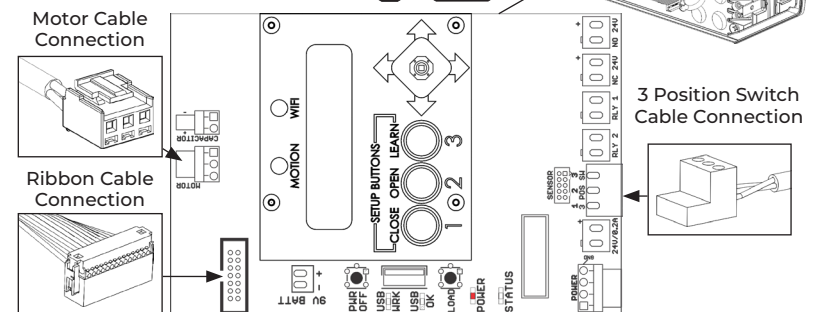

Fig. 14
5. Connect the motor cable and ribbon cable from the operator body to the control board. (Fig. 14)
6. Connect the 3-position switch to the power supply. (Fig. 14)